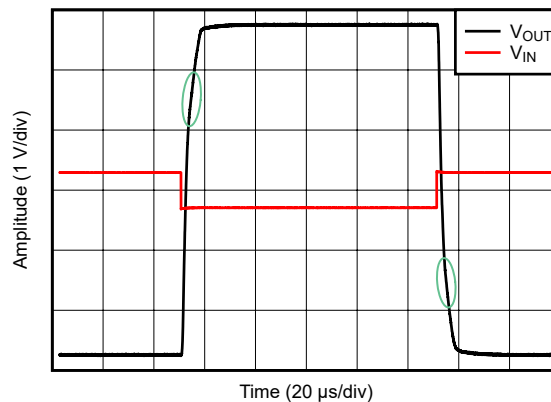

Figure 4-1. TLV9001 Overload Recovery
Use any large signal chart that has abrupt changes in rise and fall slopes, including charts called by another name, such as “Overload Recovery”. If a chart with these conditions can not be found, use the chart with the largest input signal. When looking at the transient response, select the slowest slew rate section that is more than 100 mV of  $V_{ID}$ . Taking into account the noise gain (NG) of the circuit, the slowest slew rate section for a NG of 11 is 1.1 V and for a NG of 1 the  $V_{ID}$  is 100 mV. As shown in Figure 4-1, the green ovals are the slowest slew rate with full  $V_{ID}$ . In both waveforms there is initially a faster slew rate. This initial increased slew rate can be caused by slew boost or internal parasitic capacitive feed-through. Typically, small rises come from capacitive feed-through and large rise come from slew boost. For the TLV9001 waveform, the selected area (SR) is 0.6 V/ $\mu$ s, which is less than half of the data sheet slew rate of 2 V/ $\mu$ s. Based on this information, slew boost is present in the TLV9001. For the LMV831 waveform, the selected area (SR) is 2.2 V/ $\mu$ s rising and 1.8 V/ $\mu$ s falling SR, which is close to the data sheet slew rate of 2 V/ $\mu$ s; therefore, so no boost is expected.